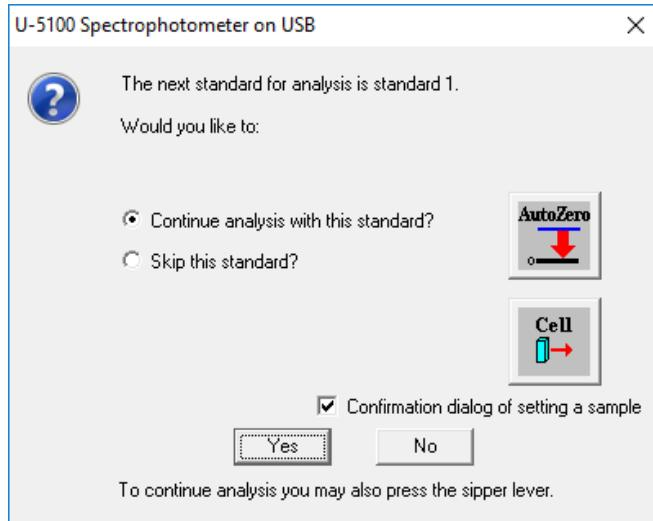

Fig. 4-49
- (7) When “Autozero Before Sequence Measurement” is turned on, auto zero will automatically be carried out.
- (8) Upon start of measurement, a window as shown in Fig. 4-49 appears. When the cell position at which standard sample 1 is placed is different from the present cell position, click the Cell button for movement to the aimed-at cell position.